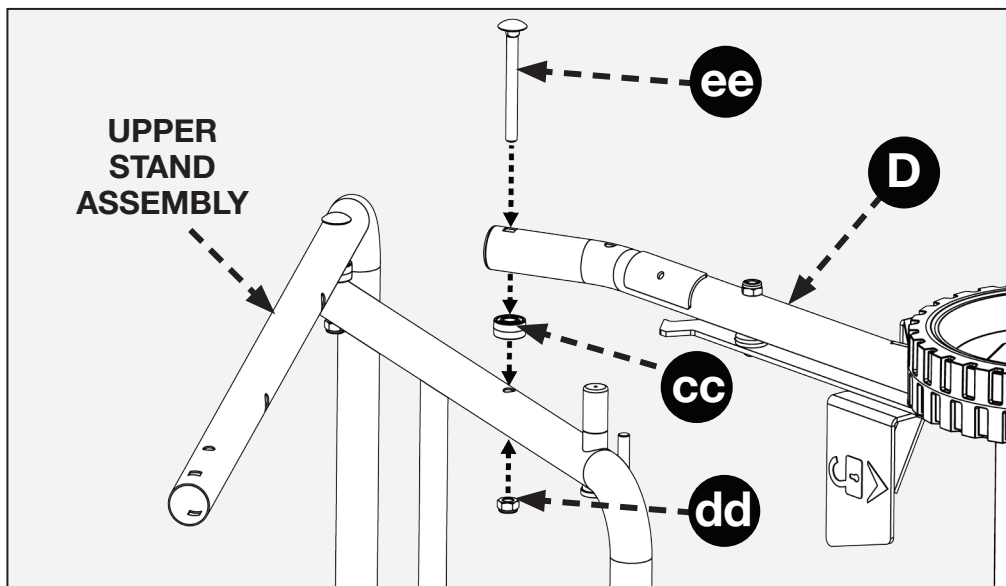

FIGURE 8
Attach the pedal assembly (D) to the upper stand assembly using two M8 x 75 Carriage screws (ee), spacers (cc) and M8 lock nuts (dd). See Figures 8 & 9 to verify the correct orientation of the pedal assembly (C) to the upper stand assembly.